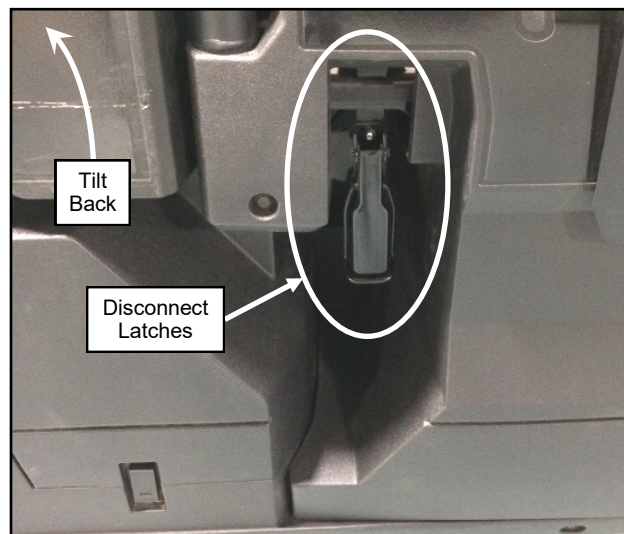

Fig. 2.12 (Tilt Bed, Pro-DX)
**2.12** Disconnect the (2) latches on either side of the vehicle in front of the bed and tilt the back seat bottom forwards per fig 2.12.